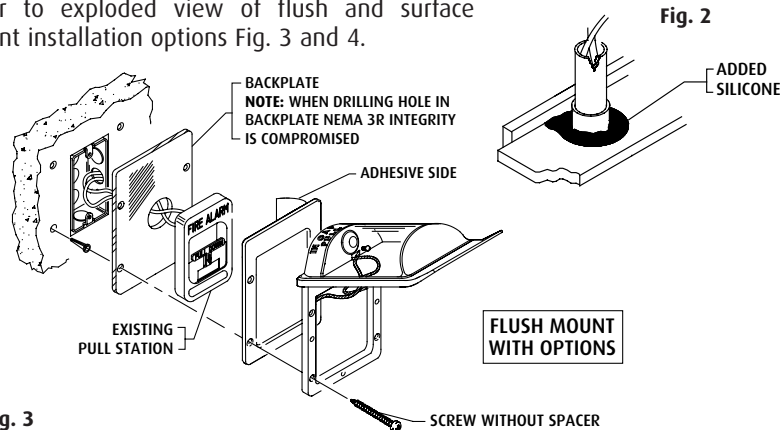
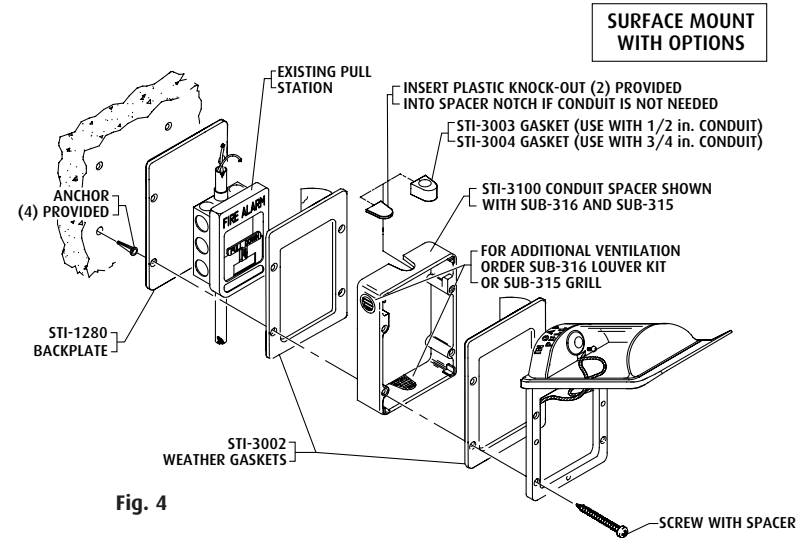

Fig. 3
Fig. 4
3. If using STI-1280 backplate, refer to Fig. 3 and 4 for install instructions depending on your application.
**NOTE:** When using STI-3100 spacer, be sure to install conduit knockout (2 provided), any additional ventilation (sub-315 grill and sub-316 louver kit), and gaskets before you tighten to the wall. When using conduit gasket (use STI-3003 with 1/2" conduit and STI-3100 spacer or use STI-3004 with 3/4" rigid conduit and STI-3104 spacer) place gasket around conduit in proper location and tighten frame over spacer. For added protection a bead of silicone may be applied to conduit fitting and between STI-1280 backplate and wall. See Fig. 2. Refer to exploded view of flush and surface mount installation options Fig. 3 and 4.
Use of gaskets is necessary to ensure a proper seal in weatherproof applications. Weather Stopper models ship complete with all necessary gaskets and should be used accordingly. For flush mount weather applications, one STI-3002 must be used between the cover and wall or backplate (see Fig. 3). In surface mount applications, one STI-3002 must be placed between the spacer and wall, while another STI-3002 must be placed between the spacer and cover (see Fig. 4). An STI-3003 or STI-3004 gasket must be used around all entering conduit. For surface mount applications, it is also recommended that the SUB-315 grill be installed in the bottom knockout of the conduit spacer. This helps prevent excessive condensation buildup. STI recommends gasket replacement every five years. (UL requires listing of pull station to be UL Listed for outdoor installations).